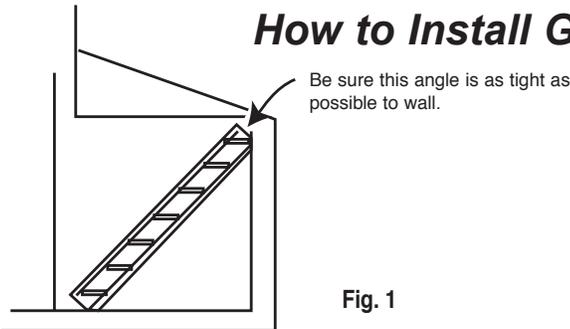

Fig. 1
STEP 1 Set level on convenient eye level tread cut-out (fig. 1). Move GORDON STAIR STRINGER in and out/up and down so that top angle is as straight as possible to outer wall.